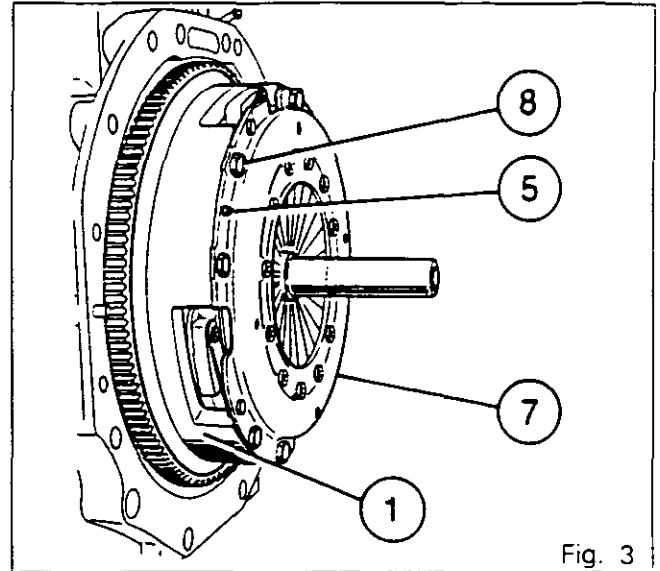

Fig. 3
2. Position the centring tool MF 457 (Fig. 3) to retain the cover plate and disc assembly.
3. Gradually loosen the bolts (8) attaching the cover plate (7) to the engine flywheel (1).
4. Remove the cover plate and the disc (6).
5. Remove the two dowel pins (5) from the flywheel.